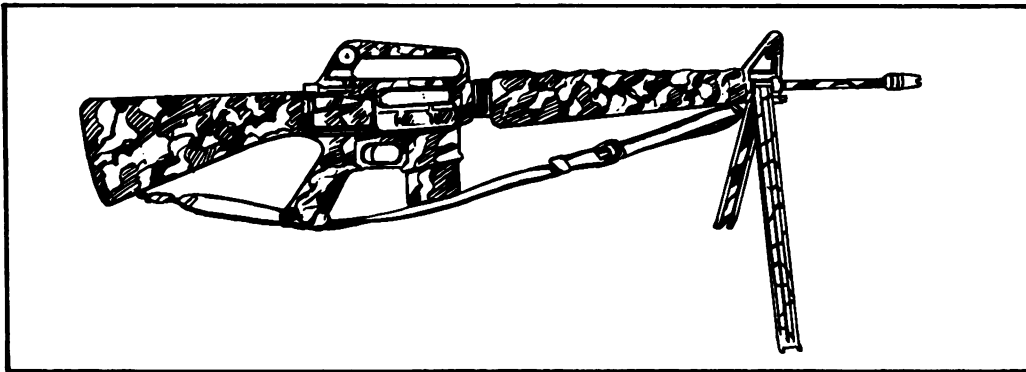

Figure 4.
4. To camouflage your weapon (figure 4):